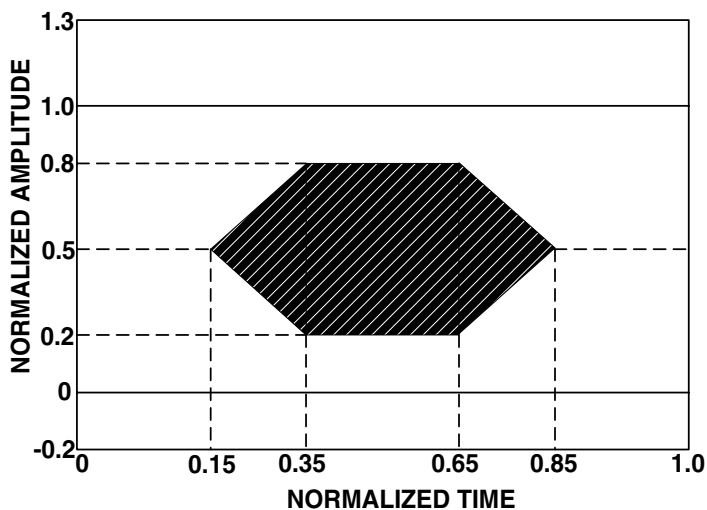

Figure 2. Transmitter Optical Eye Diagram Mask
- Laser transmitter pulse response characteristics are specified by an eye diagram (Figure 2).
2. Laser transmitter pulse response characteristics are specified by an eye diagram (Figure 2).